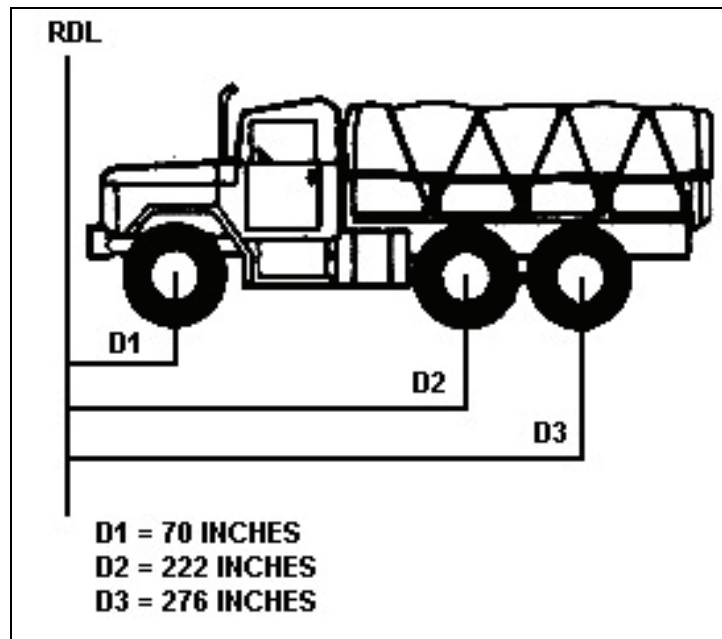

Figure 3-7. Axle Distances
3. Measure axle distances (see Figure 3-7).